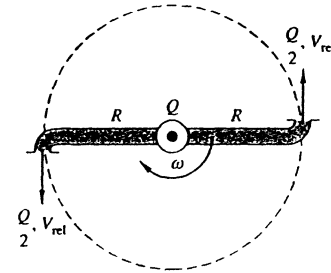

Fig. P11.15
**11.16** For the “sprinkler turbine” of Fig. P11.15, let  $R = 18$  cm, with total flow rate of  $14 \text{ m}^3/\text{h}$  of water at  $20^\circ\text{C}$ . If the nozzle exit diameter is  $8 \text{ mm}$ , estimate (a) the maximum power delivered in  $\text{W}$  and (b) the appropriate rotation rate in  $\text{r/min}$ .